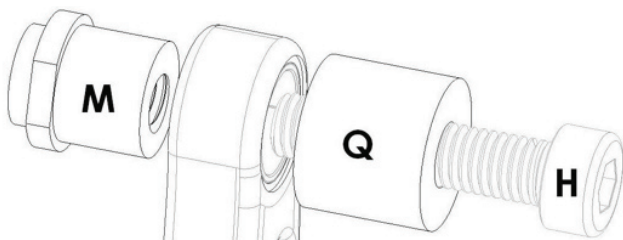

Fig. 5
3. Place the links on your bench and assemble the DU bushing removal tools as shown in Fig. 5. Use an Allen wrench and open wrench to draw the DU Bushings out of the back of the links.